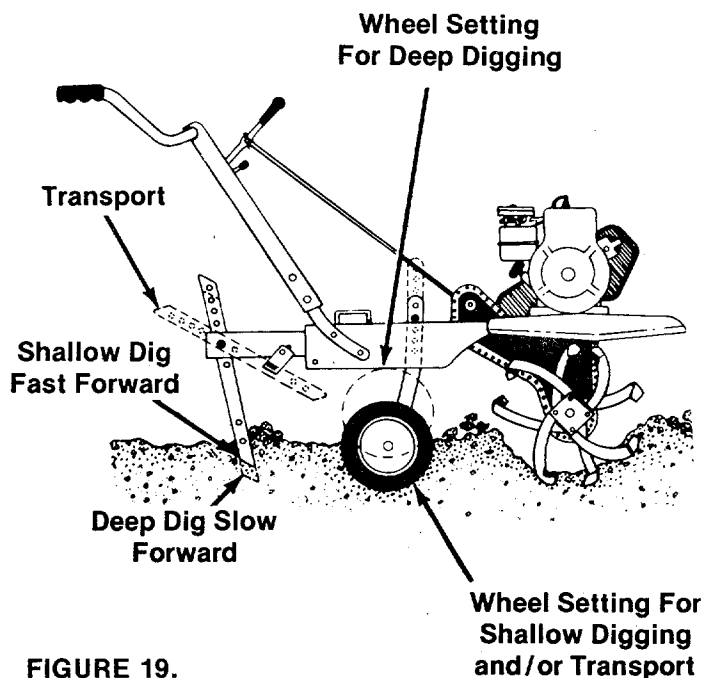

FIGURE 19.
**2. Depth Bar Adjustment:** The depth bar acts as a brake for the tiller and controls the depth and speed at which the machine will operate. See figure 19.